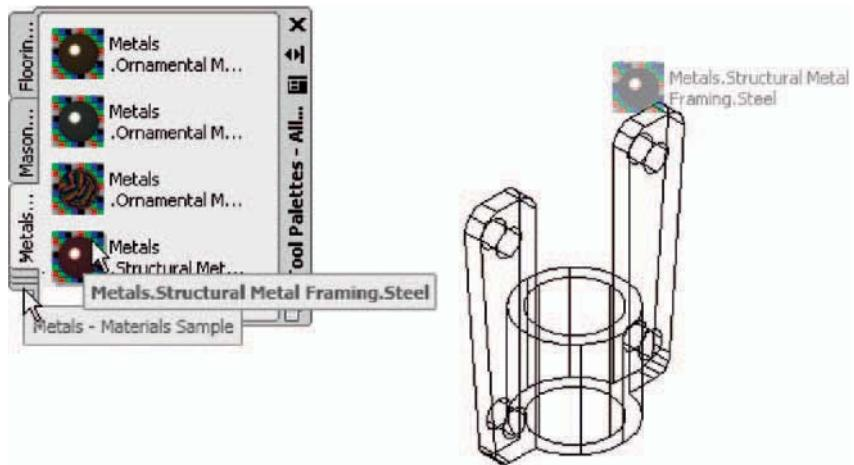

Fig. 15.33 Metals, Structural Metal Framing, Steel applied to the model
1. In the Metals – Materials Library palette select Metals, Structural Metal Framing, Steel and apply it to the 3D model (Fig. 15.33).